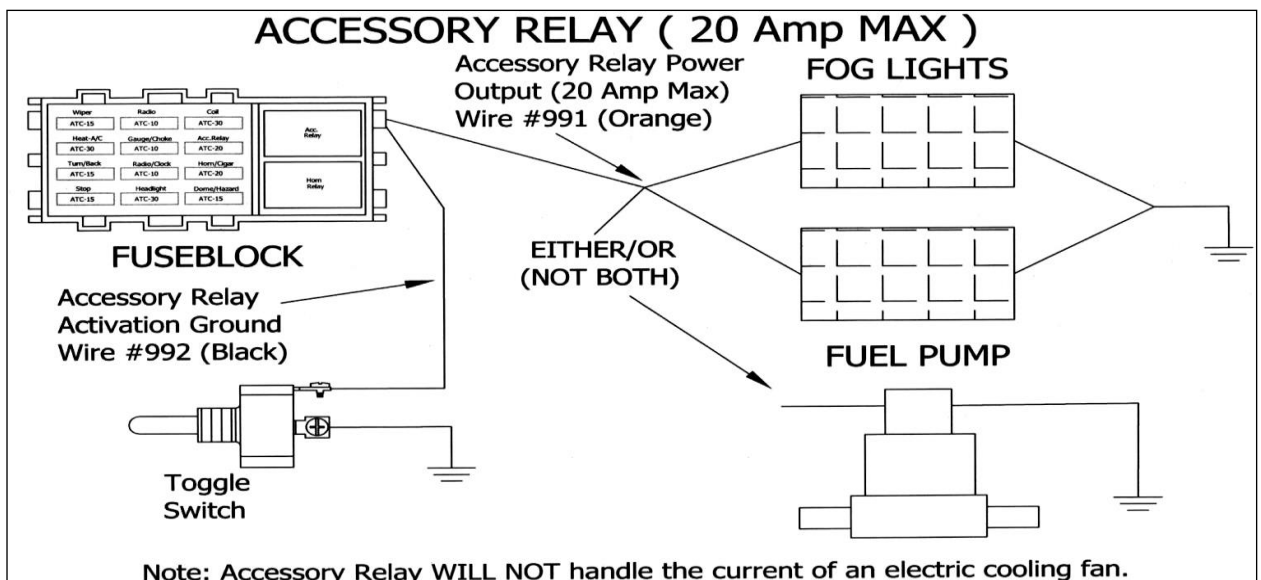

Figure 7-24 Accessory Relay Diagram
7.13.7 The final Accessory component in this Mustang chassis harness is a 20amp accessory relay output. The relay is preinstalled in the fuse block, powered, and fused. **See Figure 7-24.**